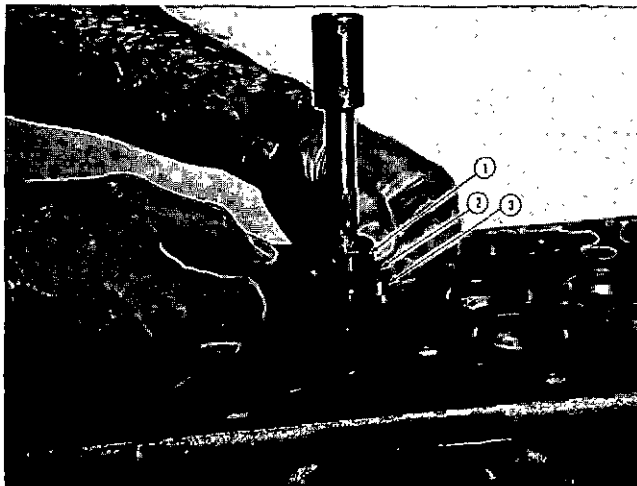

Fig. 2-1-10, V40219. Set reamer depth
4. Insert locating pin (2) into eroded hole and tighten hold-down knob.
5. To set depth of reamer assembly, insert assembly in guide. Place bushing (3, Fig. 2-1-10) between holder assembly and reamer adjustable stop collar (1). Insert 0.005 inch [0.1270 mm] feeler gauge (2) between bushing and adjustable collar; tighten set screw.